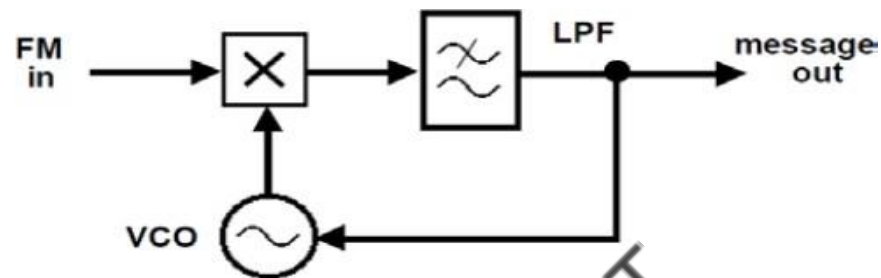

Figure.3 Phase Lock Loop (PLL)
2. Model the PLL demodulator illustrated in Figure 3.